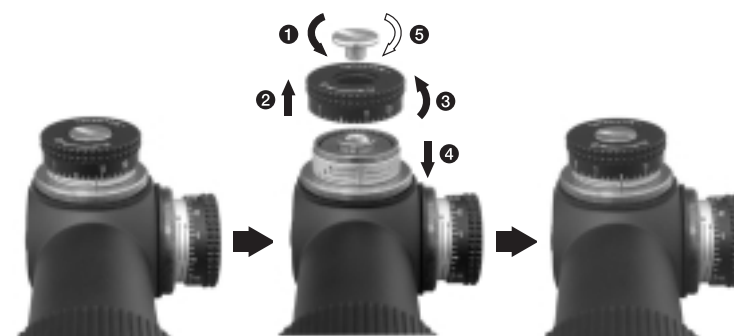

Fig. 3-5
(4) Zero setting of grip (Fig. 3-5)